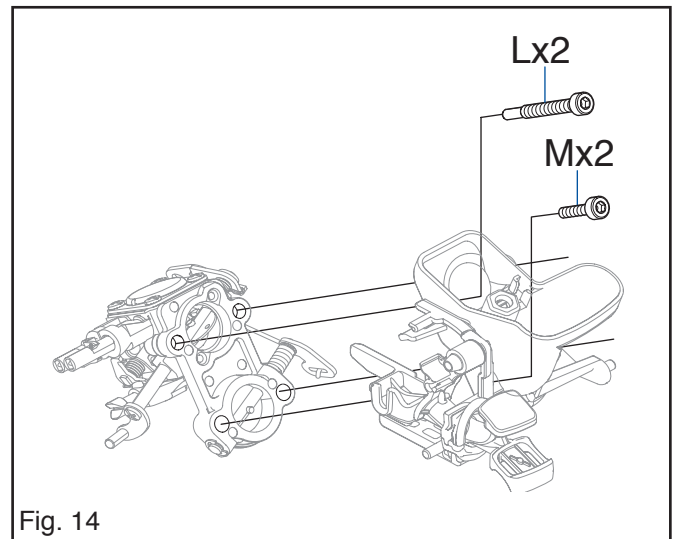
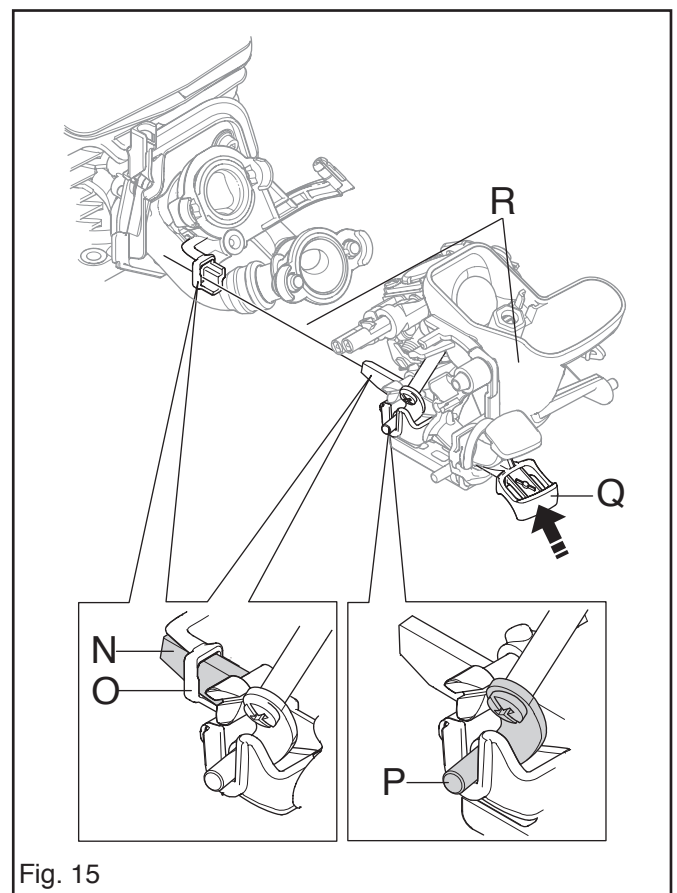

Fig. 14
Fig. 15
11. Fit the filterholder with choke on carburettor. Use long screws (L) on the upper part and short screws (M) on lower part. See fig. 14.
- Fit choke shaft (P) in notch.
- Slide choke rod (N) in guide (O).
- Push in the choke rod (N).
- The impuls nipple should meet the impuls hose (R).
- Connect the rear rubber mount (S). See fig. 15.